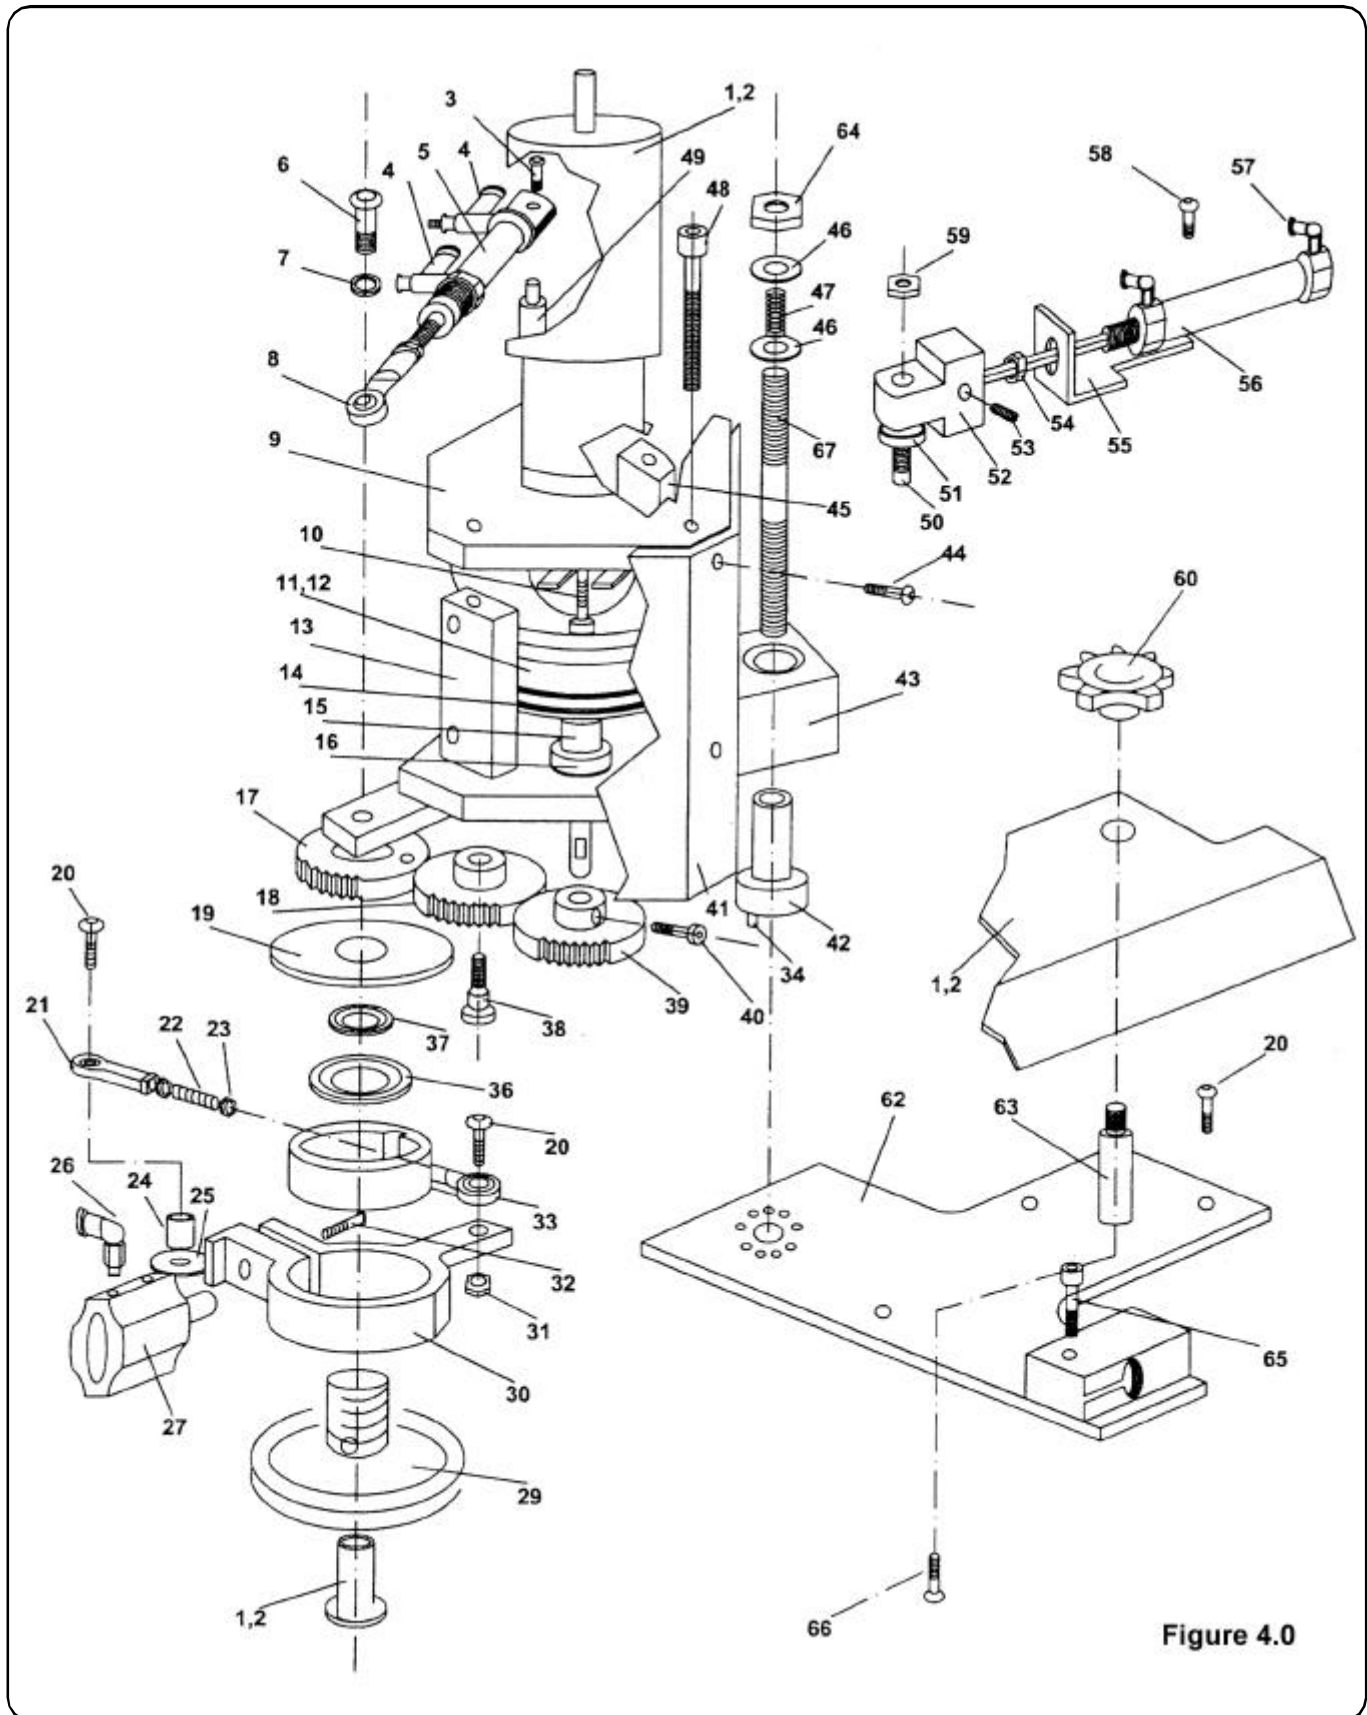
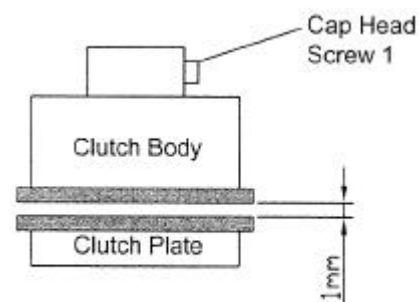

Figure 4.0
Figure 4.3
Figure 4.0 shows the jig drive assembly. On the 84-55 a jig may be driven continuously or with an indexed motion. The settings for these two styles of motion are given in separate sections below. Any settings common to both types of motion are also given in separate sections.
The rod end bearing ( item 8, figure 4.0) should be set so that when the cylinder is fully extended the drive wheel is taken 3mm past its point of contact with the jig.
The drive arm eccentric ( item 34, fig 4.0 ) is used to adjust the point of contact between the drive wheel and the jig face in relation to the throat plate 'D'. Location holes drilled into the base plate, item 62, ensure the eccentric does not move from the position it has been set to. The factory setting for the eccentric is shown by a center pop mark next to the relative hole. If any adjustment is required slacken off nut 64 and lift drive arm item 43, up allowing the eccentric to rotate. Ensure the pin is located in one of the holes and tighten the nut. Set the spring 47 to the correct compression, see section 4.1.2.d.
To allow the jig drive wheel to find its optimum location point a floating drive arm, 43, fig 4.0, has been used.
As well as providing the drive to the drive wheel, the drive linkage, item 22, figure 4.0, also determines the angle of the drive clamp cylinder, item 27, figure 4.0. if the angle of this cylinder is incorrect it can foul on the sewing jig or collide with the drive linkage itself.
The DC motor, item 1, figure 4.0, is used to obtain the continuous drive feed. The motor has two speed settings.
The clutch, item 11, figure 4.0, engages and disengages the DC drive motor. The gap between the two clutch faces must be set correctly to avoid slippage and binding. Figure 4.2 shows how to increase and decrease the clutch power. Figure 4.3 shows the gap setting between the faces. Release the cap head screw 1 and move clutch body up or down until the correct setting is achieved.